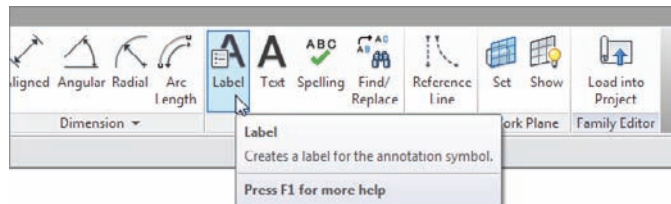

FIGURE 14.27 Selecting Label from the Home tab
4. On the Text panel of the Home tab, click Label, as shown in Figure 14.27.